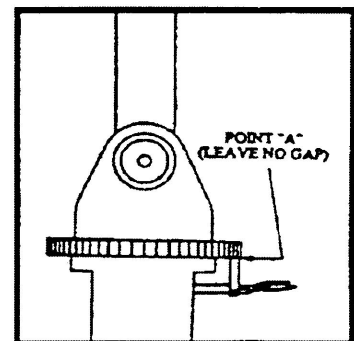

Figure 2
4. Once the boom is steady, and is over center with the weight back toward the hopper, locate point "A" on the underside of the turntable. Use a piece of steel back toward the hopper, locate point "A" on the underside of the turntable. Use a piece of steel and clamp it to the turntable shroud support. The location of point "A" must be on the opposite side from the direction the boom will be lowered. This will be the starting point from which you will determine the amount of play in the turntable. Make sure there is no gap between the underside of the turntable gear and the piece of steel clamped onto the shroud support. (See Figure 2).